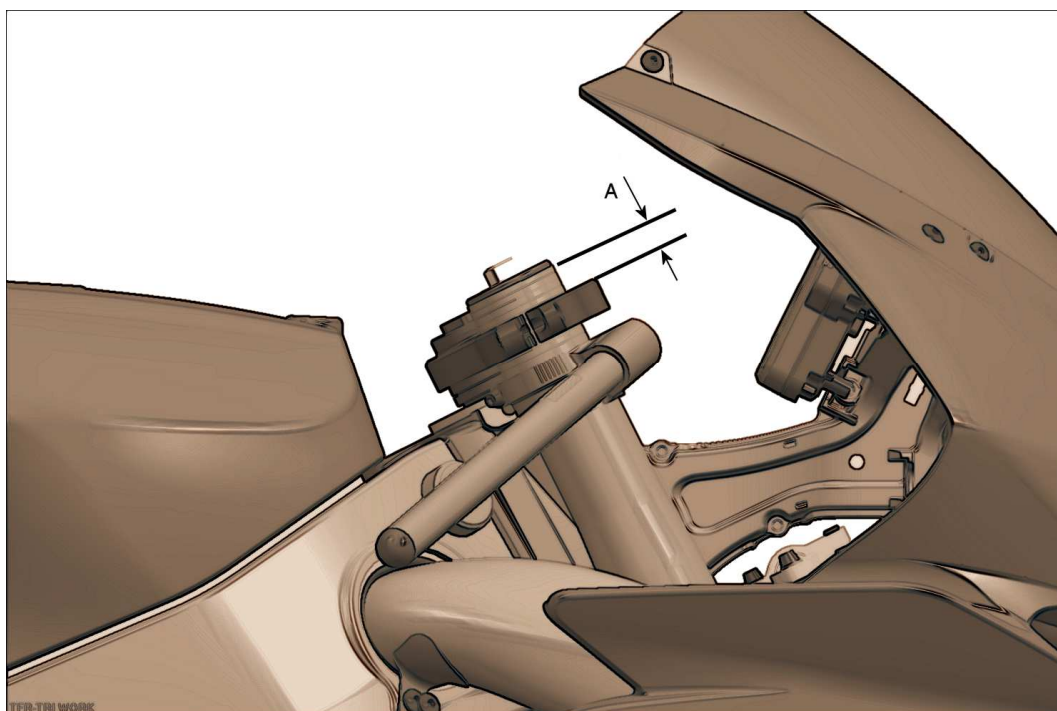

Fig 1 – Zona Anteriore RSV4 evidenziato riferimento per misura sfilamento anteriore forcella RSV4 front end where the fork top height measure is highlighted
*The front tyre radius is referred to the Pirelli Diablo 120/70R17. The measurement of the fork top height is shown in figure 1. The*